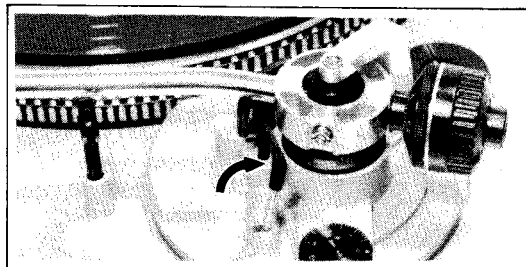

Fig. 2
5. Set the cueing lever to the up position. (See Fig. 2.)